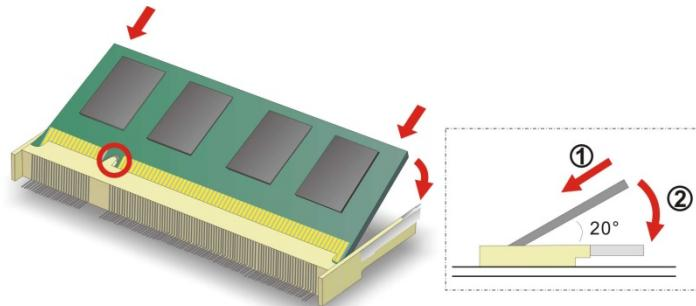

Figure 4-1: SO-DIMM Installation
To install a SO-DIMM, please follow the steps below and refer to **Figure 4-1**.
Step 3: **Insert the SO-DIMM.** Push the memory in at a 20° angle. (See Figure 4-1)
Step 4: **Seat the SO-DIMM.** Gently push downwards and the arms clip into place. (See Figure 4-1)